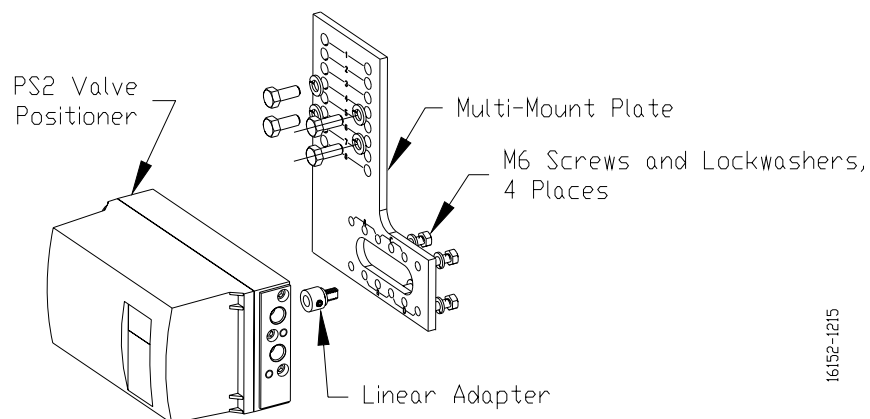

FIGURE 6 Fastening the Multi-Mount Plate to the PS2
2. Using the four holes with the *letter* from Table 1, fasten the multi-mount plate to the PS2 valve positioner with four M6 screws and lockwashers. See Figure 6 for plate and PS2 orientation.